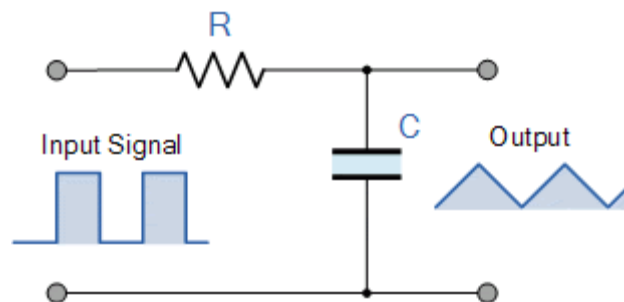

Fig.4
3. Apply square input waveform of Time period=10ms and observe triangular output waveform as given in Fig.4.